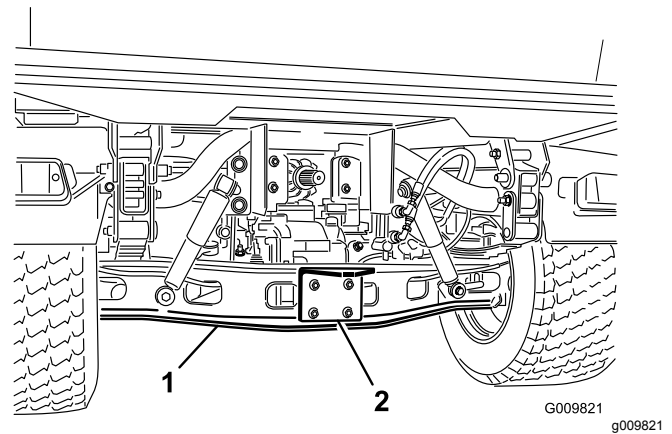
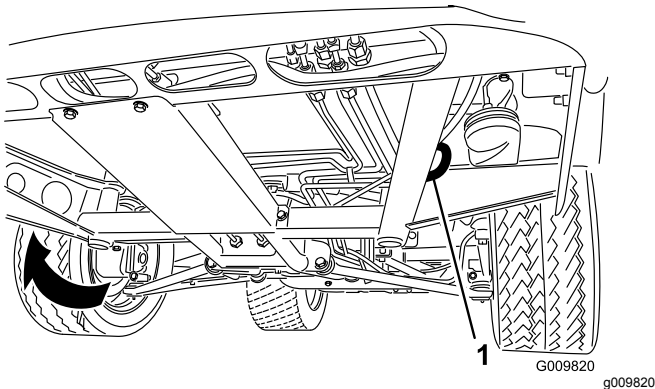

Figure 27
Figure 26
Refer to Figure 26 and Figure 27 for the tie-down locations on the machine.
1. Affix a tow line to the tongue at the front of the frame of the machine (Figure 26).